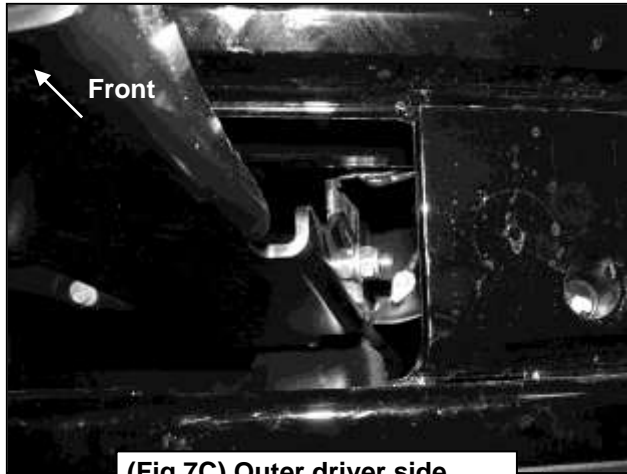

Fig 7A
4. Repeat **Step 3** to install the 12mm x 35mm Single Bolt Plate, **(Figure 7A)**, into the remaining hole in the other side of the frame channel and Bracket, **(Figures 5, 7B & 7C)**.